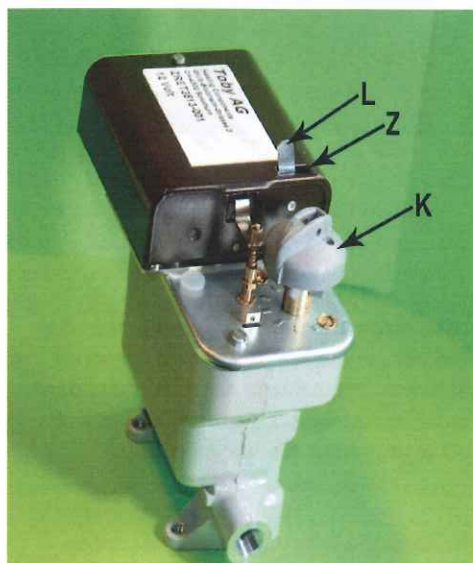

Figure 1
When the Toby ZR electric top is fitted onto a Toby DVR5 it automatically controls the oil flow rate of the oil fired appliance by means of an external room thermostat or cooker thermostat. During the running cycle the ZR electric top automatically adjusts the oil from high fire to low fire and low fire to high fire depending on the thermostat heating requirements. In the event of a power failure the unit automatically sets to low fire. **Figure 1** during power failures the manual latch lever (L) can be used to override the electric operation and allow for manual flow rate adjustment by means of the knob (K). The ZR electric top with switch can be used to operate a fan on fan assisted appliances.